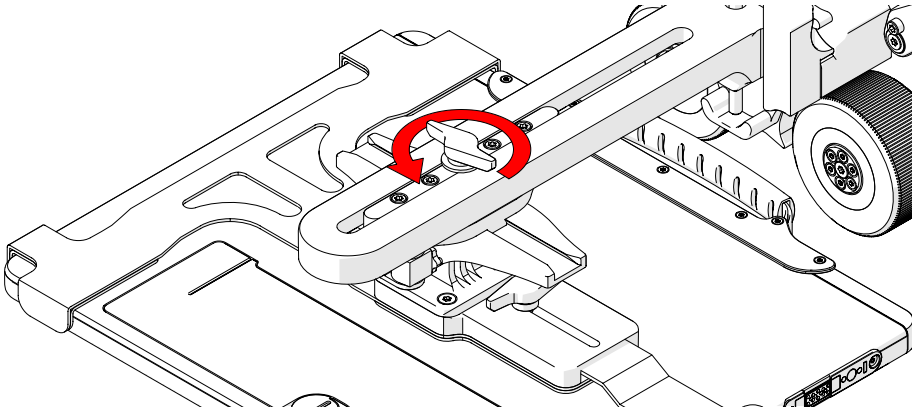

Fig. 35 - Loosen wing knob
1. Loosen the wing knob to allow for movement of the detector (*Fig. 35*).